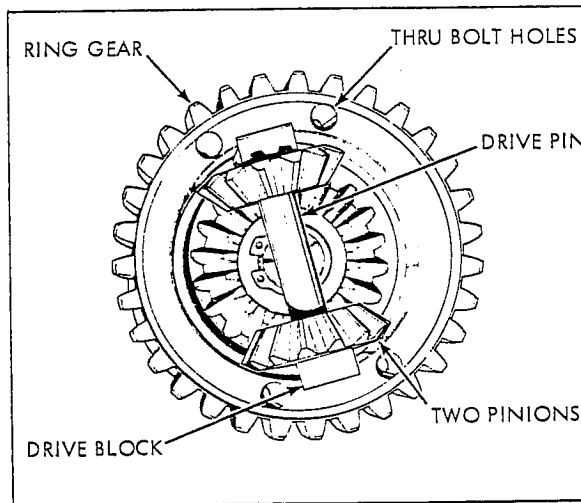

Figure 8-15 Differential Assembly (One Carrier Removed)
- (1) Remove the four hex head bolts and the upper axle and differential carrier. Remove the drive blocks, pinions, drive pin and thrust spacer if used, by lifting out of the ring gear. Tap the ring gear lightly with a mallet to loosen from the differential carrier. Figure 8-15.
- (2) If a snap ring is used, the axle assembly may be disassembled. If the axle end has been rolled, do not attempt to break the rolled retaining edge. The parts are to be replaced as an assembly.
- (3) Remove the snap ring and the thrust washer, if used. Separate the bevel gear and differential carrier from the axle.